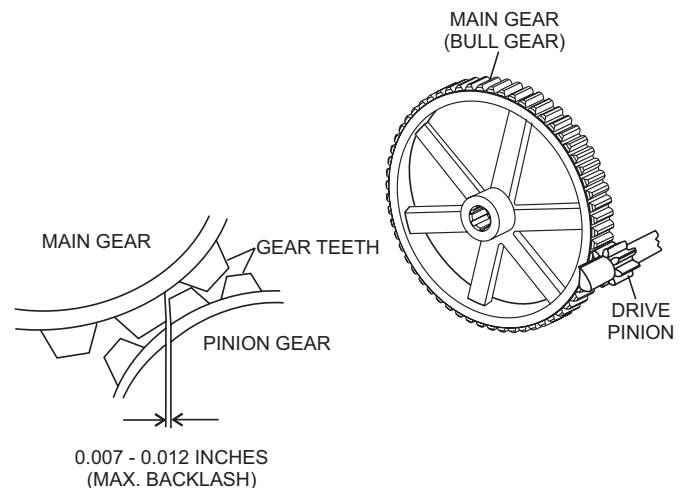

Figure 48. Drive Pinion and Main Gear (Backlash)
3. Using your hand, slightly move (rock) the drive pulley back and forth to determine the amount of backlash. Insert a feeler gauge between the gears to determine the backlash distance. Backlash should range between 0.007–0.012 inches (Figure 48).